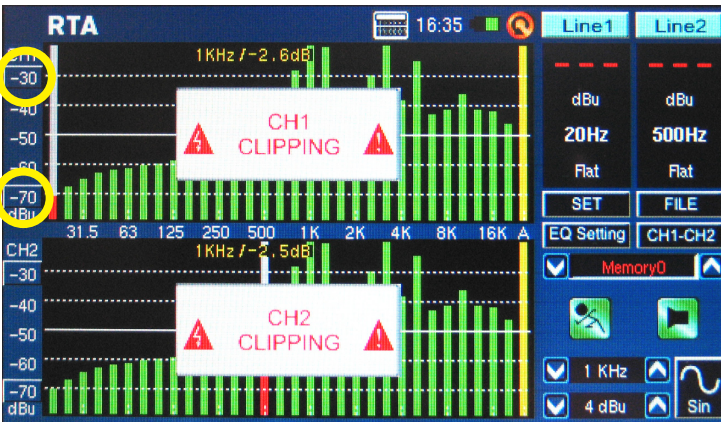

figure 9
- Particularly usefully in RTA mode: if you're finding that one or more of your channels is clipping continuously, just find the 'dBS' or 'dBU' values to the left of the screen (see figure 9 and 10). Clicking the very top value (which should be contained within a small square) will scroll your window up and give you higher readings – without the clipping.